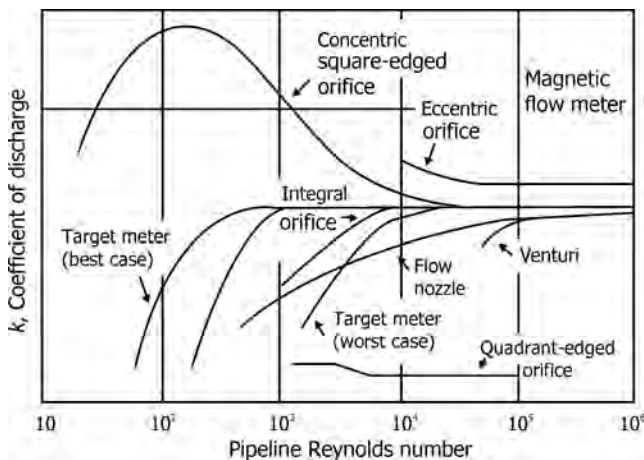

FIGURE 4.11 Effect of Reynolds numbers on different flow meters.
- Figure 4.11 gives the effect of Reynolds numbers on different flow meters.